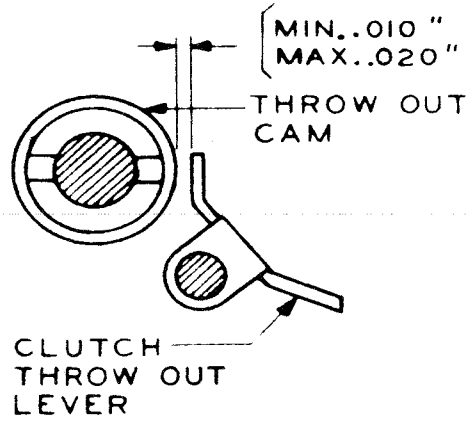

Figure 19
2.26 Clutch Throwout Lever should clear the high part of its cam by minimum 0.010 inch, maximum 0.020 inch when the keyboard-control operating lever is in its upper KEYBOARD position and the spacebar is depressed until its lever bottoms lightly in the two front selector bars. See Figure 19.